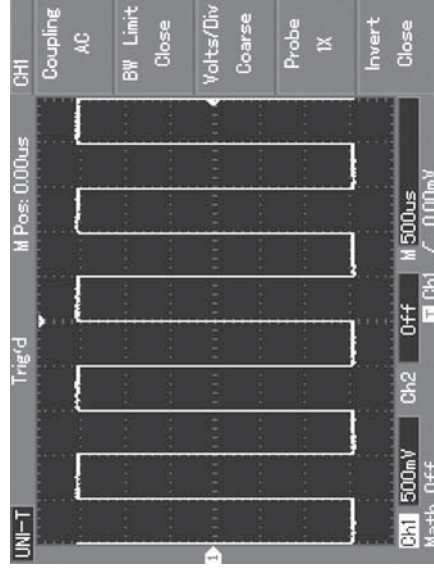

Figure 1-7 Probe compensation signal
③ Connect the probe tip and ground clamp to the corresponding probe compensation signal terminals. Press **[AUTO]** and you will see a square wave in the display of about 3V peak-to-peak at 1kHz in a few seconds. See Figure 1-7 for details. Repeat these steps to check CH2. Press the **[OFF]** function button to close CH1, then press **[CH2]** function button to open CH2. Repeat steps 2 and 3.